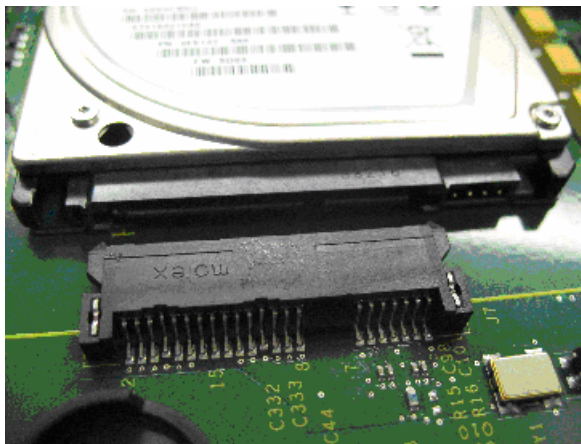

Figure 169: CP MG card hard drive connector
4. Place the replacement hard drive on the CP MG card and slide the replacement hard drive into SATA connector J7. See Figure 169: CP MG card hard drive connector on page 598.